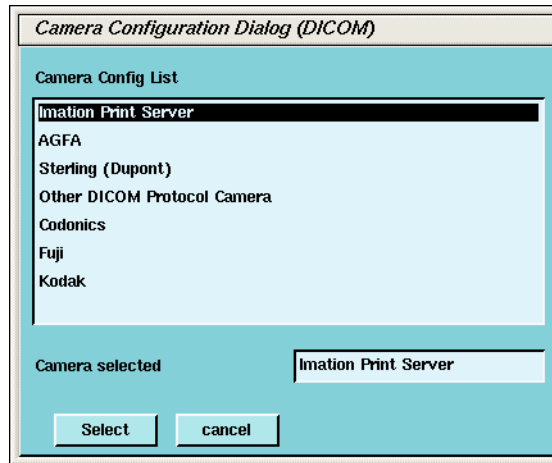

Figure 5-6 Camera Model Dialog (DICOM)
a.) A list of camera models appears (See Figure 5-6). Select the appropriate model from the list and click SELECT. Clicking SELECT presets all the parameters to that models except the Network parameters.